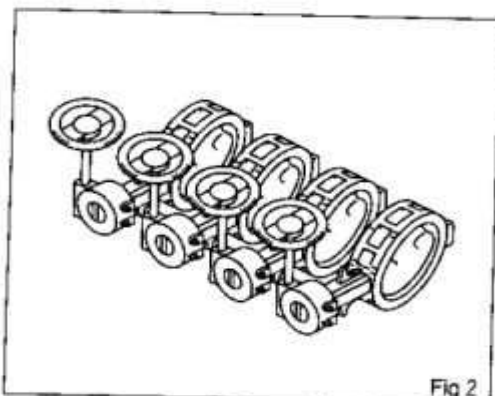

Fig 2
- **Stocking (un-packed)** : When valve to be stored without packing, any excessive force to its actuator part to be avoided. Cover-sheet to be put onto valve at dusty place. (Fig 2)